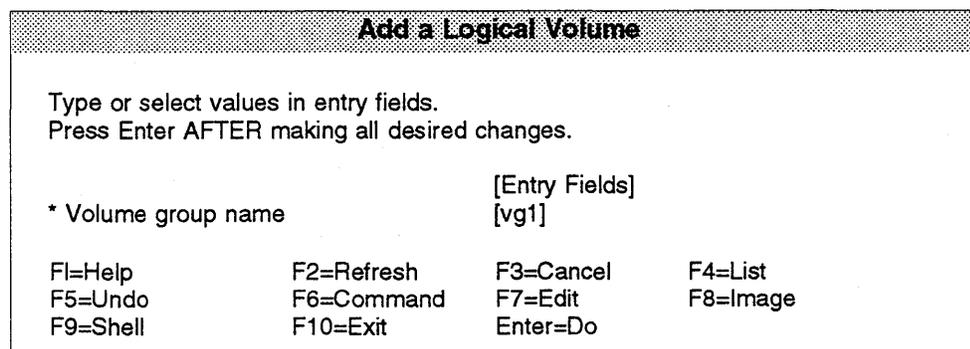

Figure 4-14: Add a Logical Volume, Menu 1
- 2 Then select "Add a Logical Volume," and the menu will appear as shown in Figure 4-14.